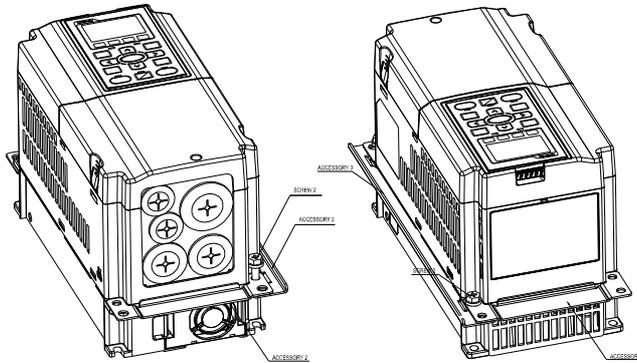

Figure 2
2. Install accessory 2&3 by fastening 2 of the screw 2(M6) (figure 2). Screw torque: 25~30kg-cm (21.7~26lb-in).